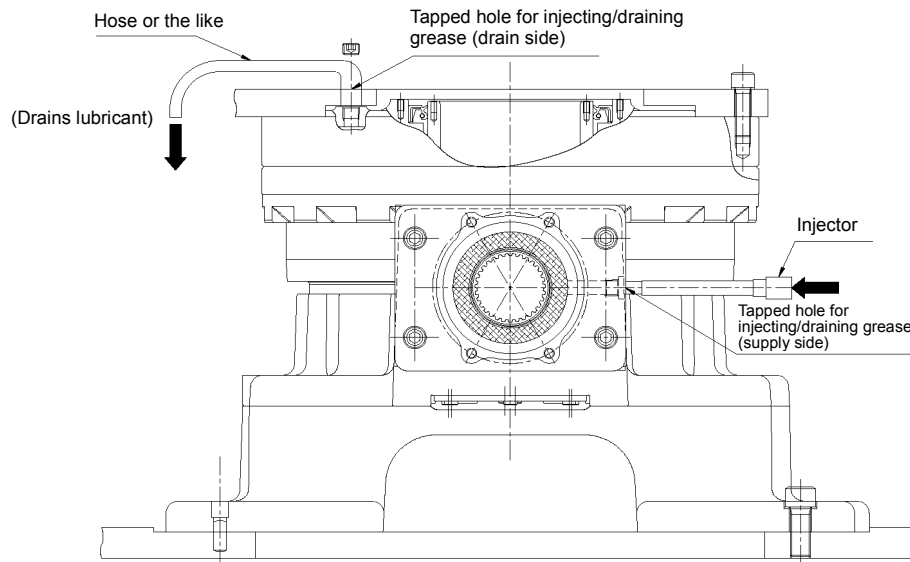

Fig. 7-2
- Step 4** • Attach a grease nipple, etc. to the tapped hole for injecting/draining grease and then attach the injector. (Refer to Fig. 7-2)